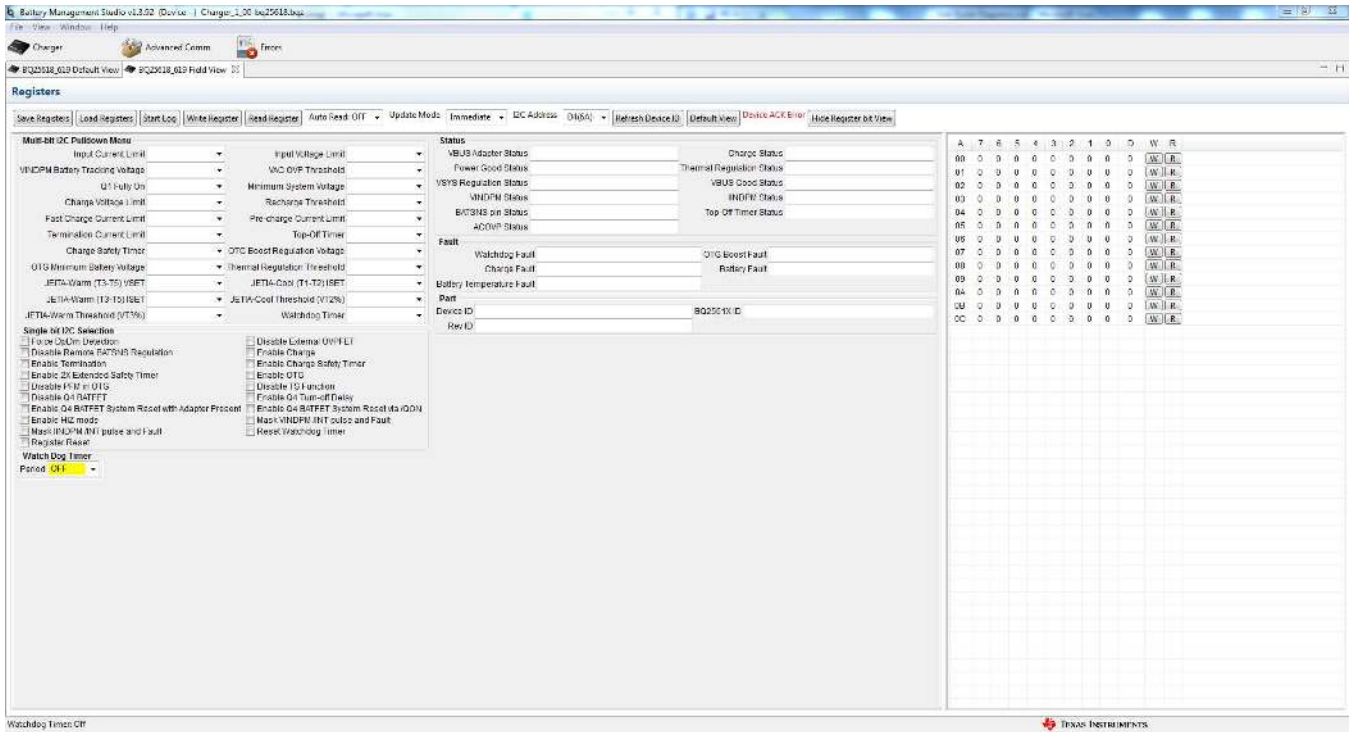

Figure 4. Main Window of BQ2561X EVM Software
3. Choose  , on the window that appears, and the main window of the BQ2561X EVM software will appear, as shown in Figure 4.
2. In the Field View (see Figure 4), make the following changes as necessary: